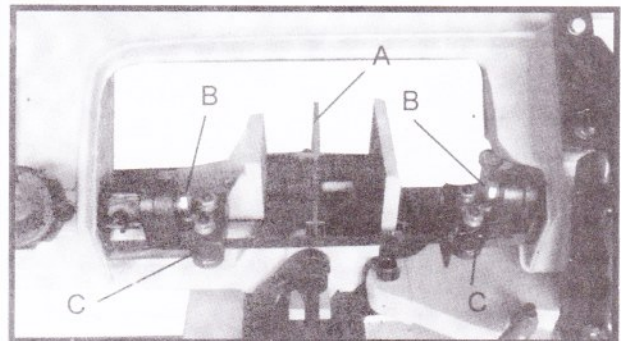

Fig.10
2. Lower the saw arm to the horizontal position. Place a square (A) Fig. 10, on the table with one end of the square against the blade, as shown.
3. If the blade is not at 90 degrees to the table, loosen the two screws (B) Fig. 10, that attach the blade guide brackets to the guide arms and rotate both guide brackets (C) until the blade is at 90 degrees to the table. Then tighten the two screws (B). **NOTE:** Care should be taken not to disturb the blade guide support bearings when making this adjustment.